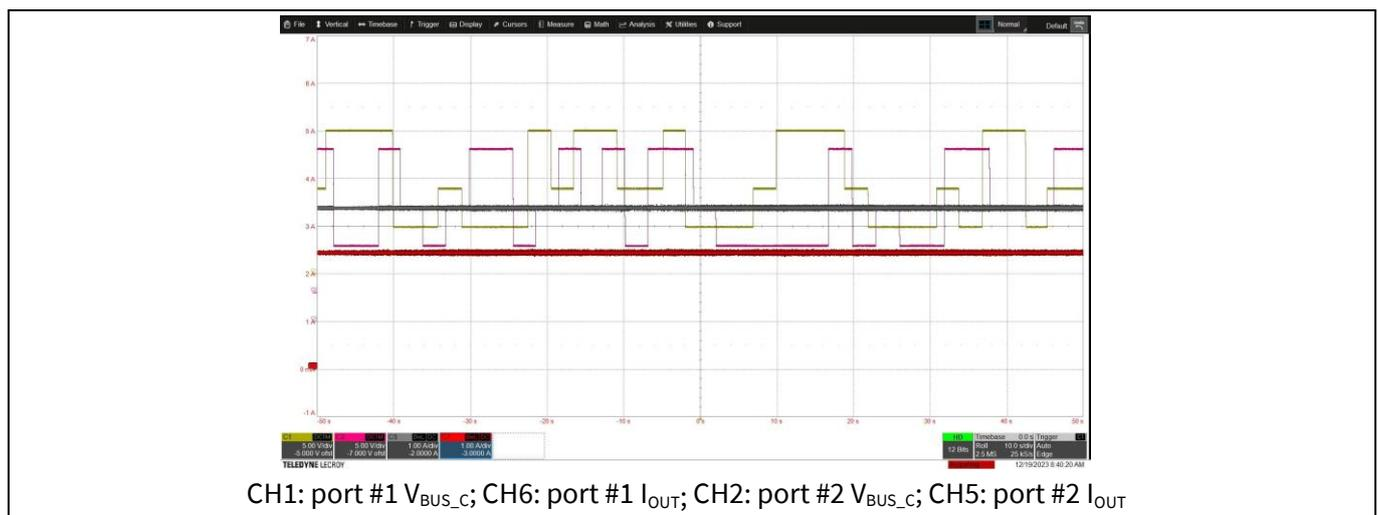

Figure 85 $V_{IN} = 230 V_{AC}$; V_{BUS_C} – continuously changing from 5 V to 9 V to 15 V (PDO); $I_{OUT} = 1 A$
- Electrical stress test #2** $V_{IN} = 22.5 V_{DC}$; V_{BUS_C} : randomly changing from 5 V to 9 V to 15 V (PDO); I_{OUT} : 1 A for a duration of 60 minutes. Captured waveforms are shown in Figure 85